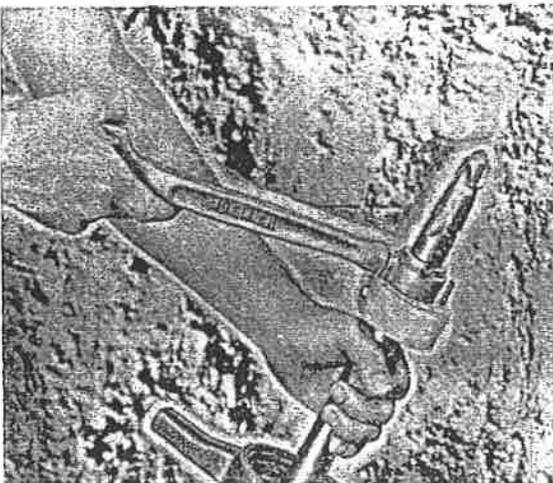

FIGURE 5
4. Tighten tool retaining screw in boring bar using small socket end of chain hook nut and tool retaining screw wrench. FIGURE 5.